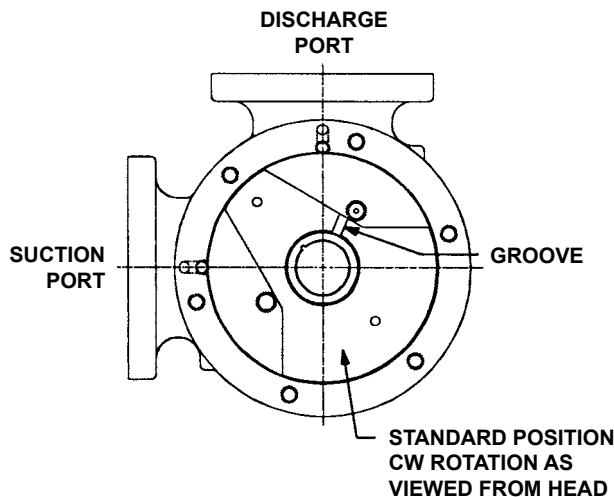

FIGURE 15
2. **If casing was removed from bracket, inspect flat gasket and replace if necessary. Install casing onto bracket pilot in the same orientation as before. This series of pumps does not allow rotating the casing to alternate port configurations – to modify the port arrangement, Refer to “Pump Rotation” on page 10.** Secure the casing with (8) capscrews.
3. Place the balance plate (if separate from bracket) into the casing bore (this step may not be required in the 825 series). Make sure plate is positioned the same as before. **Refer to Figure 15** for standard balance plate positioning.